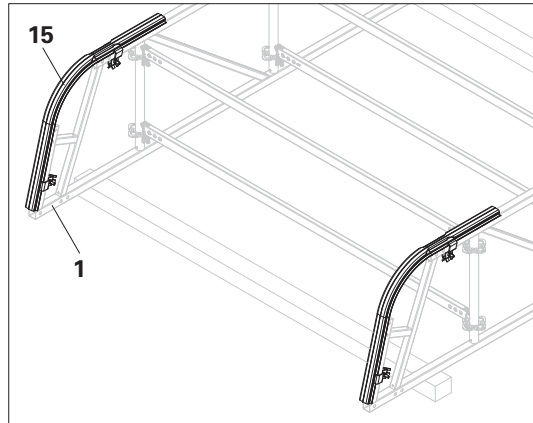

Fig. A2.01
1. Position the eave rail (**15**) on the keder tube and top chord of an eave element (**1**). (Fig. A2.01)